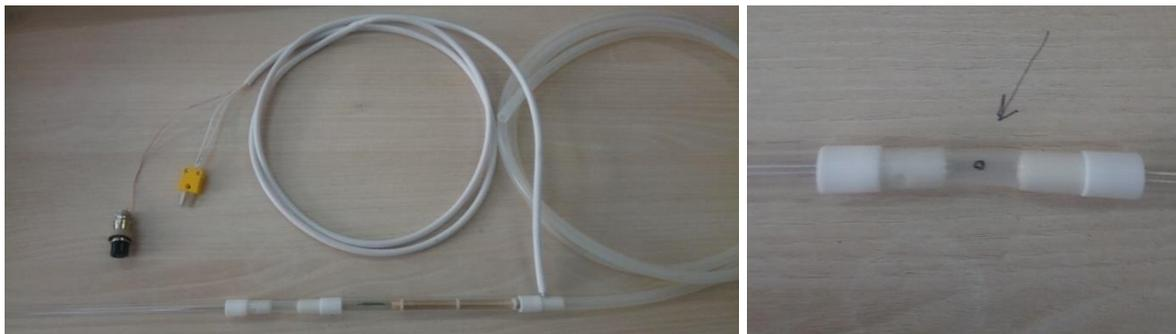

Figure 1
- take the heater with the thermocouple (fig. 1) and check if there is a hole in the middle part (fig.2). If not create a hole (diameter is approx. 3mm);